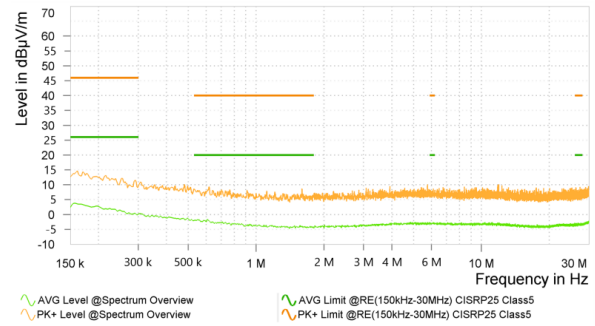

Figure 12: MPQ5850-AEC1 CISPR 25 Class 5 CE and RE EMI Performance
The MPQ5850-AEC1 also integrates an open-drain power good (PG) signal pin to indicate certain statuses, such as when the boost capacitor is out of regulation, an over-current (OC) condition is active for longer than 17 μ s, or the device is disabled. In the meantime, the internal boost uses the low-frequency, fixed peak current mode controller, so the MPQ5850-AEC1 has excellent EMI performance (see Figure 12).